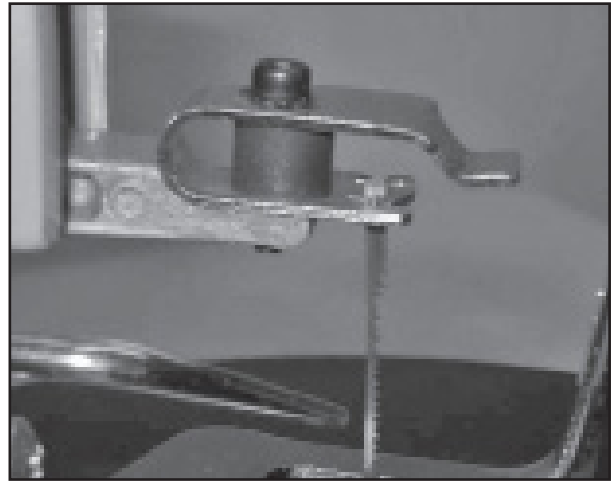

FIG. 7
This type of scroll saw blade comes with pre-installed pins that extend out from the sides of the blade ends. No adapters are needed to install these type of blades onto a scroll saw. Their pins mount directly onto the saw's blade holders. See Figure 7.
- Attach the top end of the saw blade to the saw's upper blade support. Figure 7.